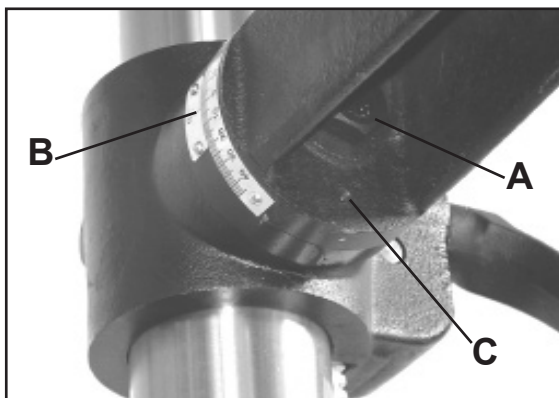

Figure 14
1. Install the arm onto the table support with hex bolt (A-Fig.14) and make sure the scale is on zero position (B-Fig.14). If necessary, adjust the hex socket screw (C-Fig.14) to level the table 90 degree to the spindle.